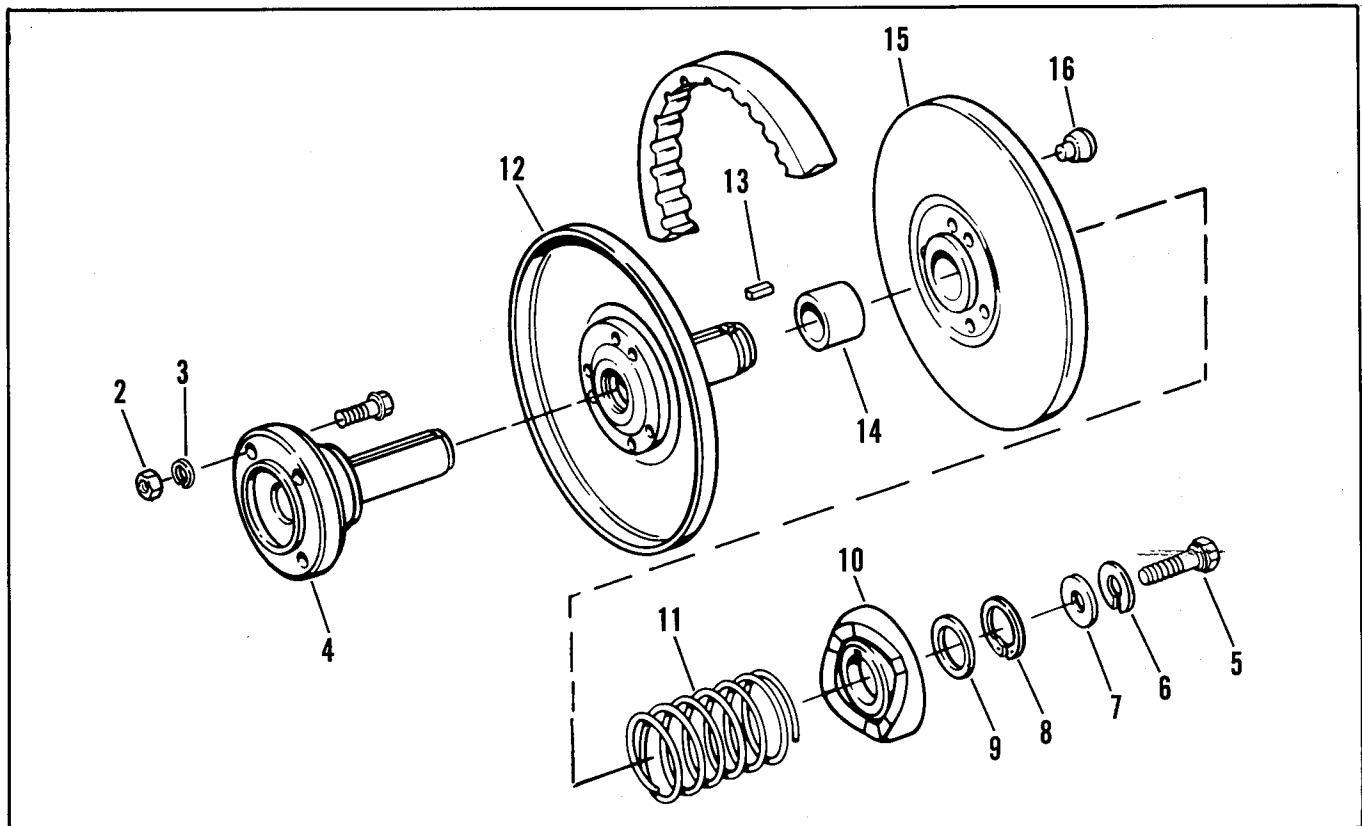

Figure 80 – Secondary Drive Assembly
- c. Apply the parking brake and loosen drive hub nuts (2) and center bolt (5).
- e. Remove the four nuts (2), lockwashers (3) and remove the secondary drive and brake disc from the differential flange.
- f. Remove the bolt (5), washer (7) and lockwasher (6) from the hub (4) and remove hub.
- g. Using the brake disc as a tool, apply force to cam (10) and compress spring (11). Remove retaining ring (8), washer (9), cam (10), spring (11), key (13) and separate movable face (15) and fixed face (12).
36. SECONDARY DRIVE Disassembly (Figure 80)
Assembly (Figure 80)